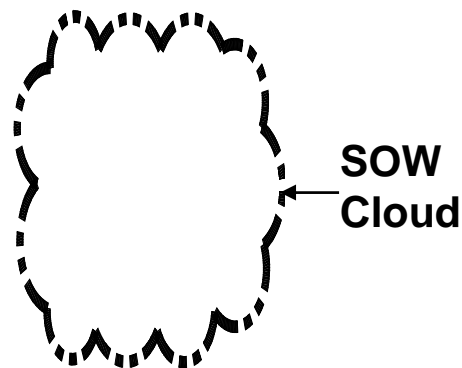

Fig. 2
- The primary purpose is to highlight to construction contractor, the scope of modifications for the project (Fig 2).
- *** Where all information on new drawing created for a project includes existing facilities then drawing shall be treated as an existing drawing i.e. with applicable SOW clouds and bolder pen assignment indicating the projects scope of modification (**Fig. 2**) and control block (**Fig. 3**)